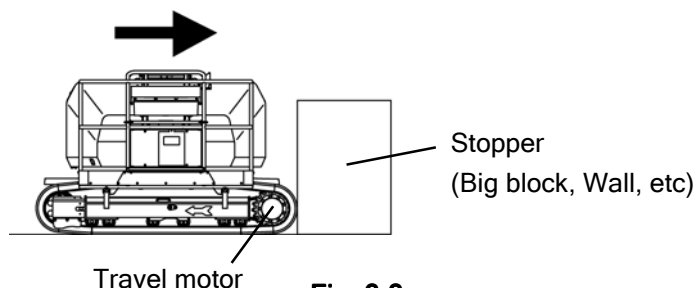

Fig. 6-3
- 9) Set the machine so that the track shoes on the Rear (Travel motor side) touch to the stopper as shown in Fig. 6-3.